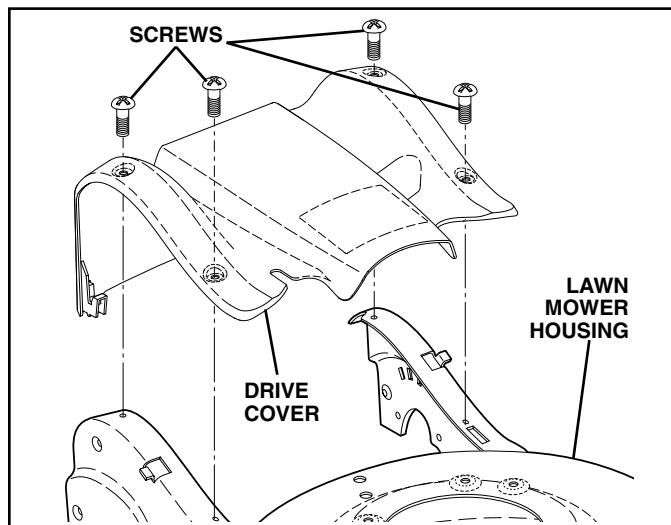

FIG. 15
TO REMOVE DRIVE BELT (See Figs. 15–17)
2. Remove screws retaining drive cover and remove drive cover from lawn mower housing (See Fig. 15).
TO REPLACE DRIVE BELT (See Figs. 15–18)
11. Reattach drive cover with screws previously removed (See Fig. 15).